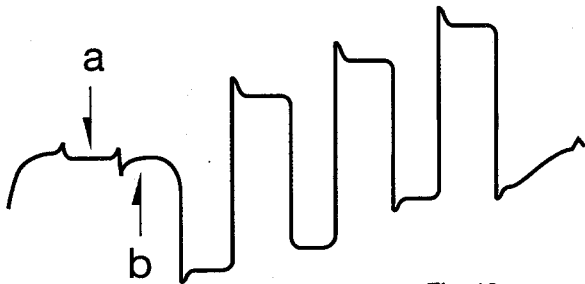

Fig. 13
2. Connect Syncroscope at TP1201 (Blue) and adjust T1204 to obtain the waveform as same as FIG. 13 that a & b at the same level.